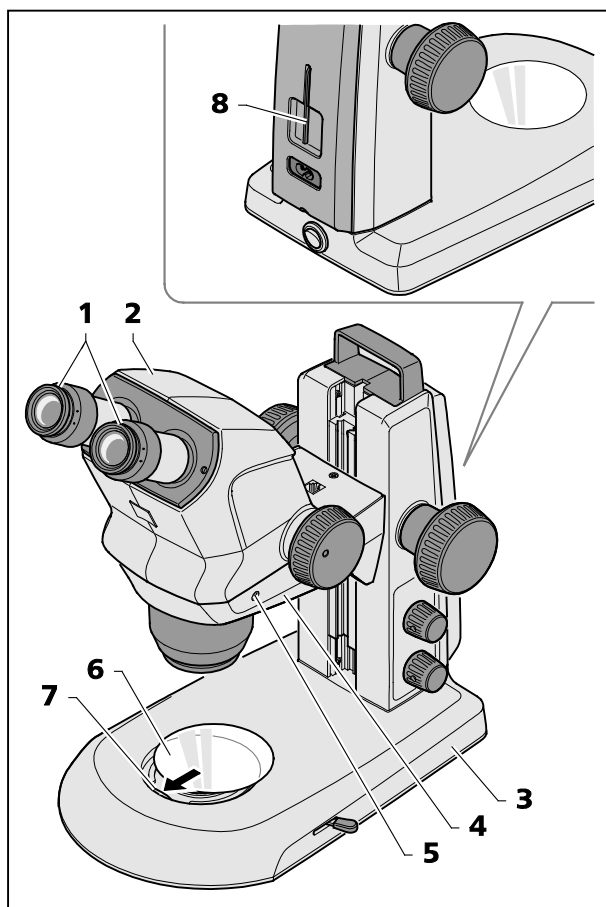

Fig. 7 Installing the stereo microscope
- Place stand (Fig. 7/3) on a level, firm support.
- If the Stemi 508 body (Fig. 7/2) has not yet been mounted, insert it in the Stemi mount (Fig. 7/4), align it and secure it using the clamping screw (Fig. 7/5).
The appropriate Allen key (Fig. 7/8) is located in the support on the back of the device.
- If the two eyepieces (Fig. 7/1) have not yet been mounted, insert them both to their stop in the eyepiece tube.
- Insert glass plate or B/W plastic plate (Fig. 7/6) in the mount in the base of the stand. To this effect, press the glass plate or the B/W plastic plate against the spring (Fig. 7/7) and make it lock in.